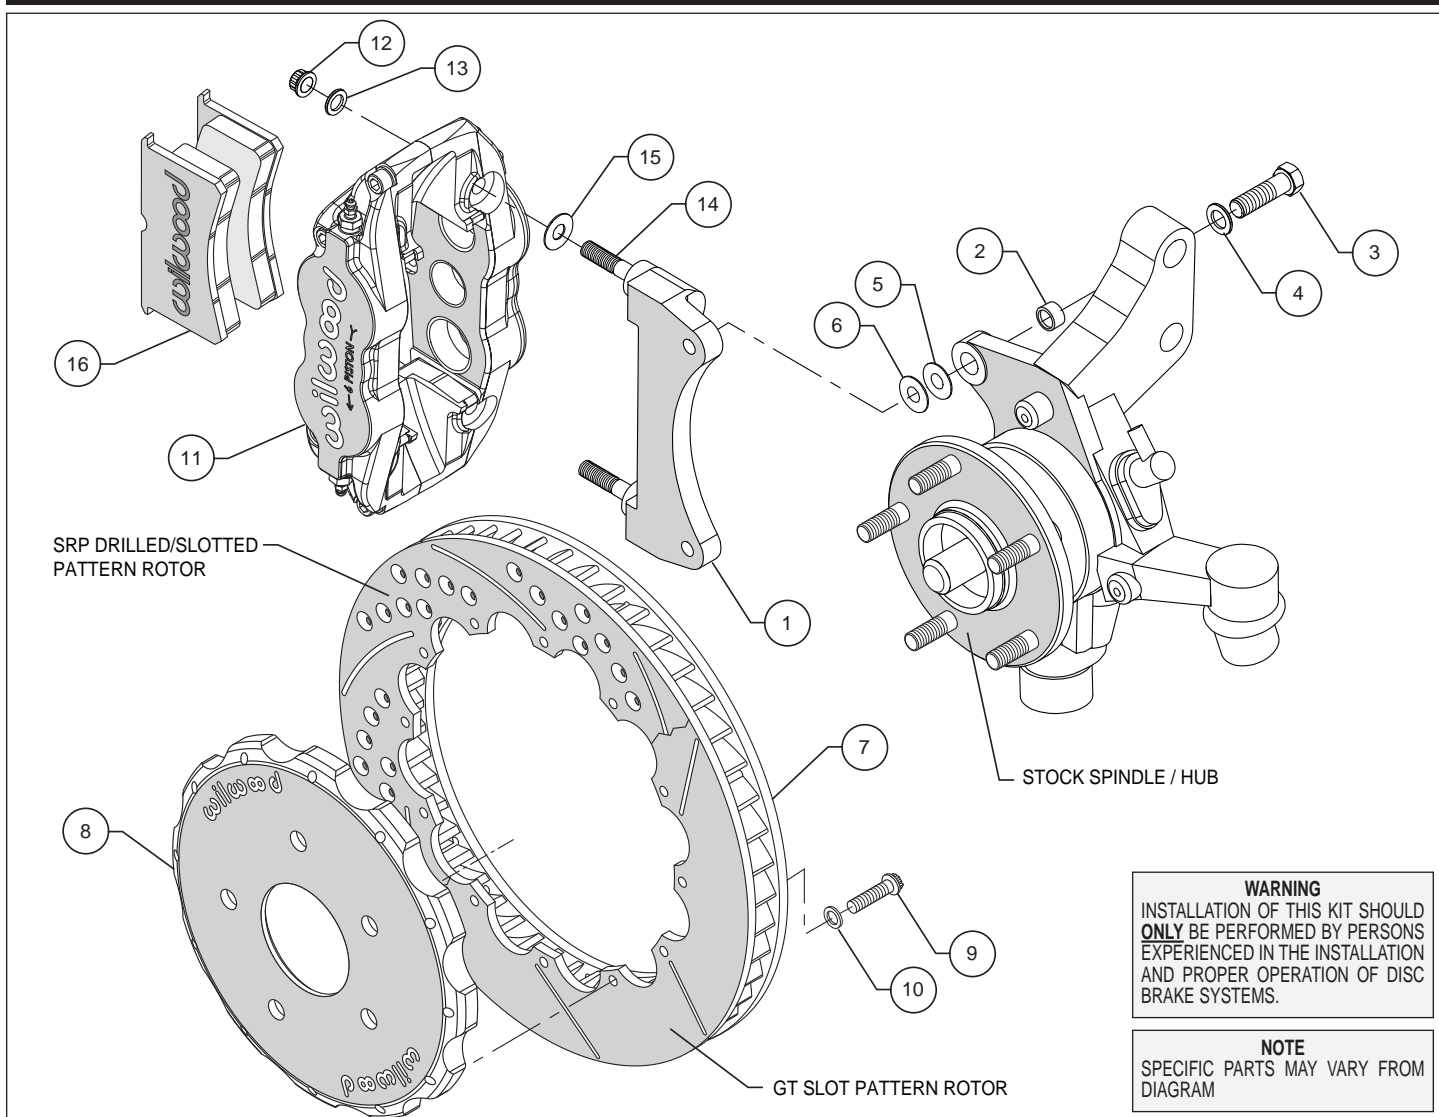

Figure 1. Typical Installation Configuration
• The caliper mounting bracket assembly (1) should be installed first with clean, dry threads on the mounting bolts. Install the bracket on the outboard side of the spindle by sliding bolt (3) through washer (4), and through sleeve (2) which will be inserted into the spindle "ears" from the back side of spindle. Place two shim washers (6) between the bracket (1) and the spindle (see Figure 1). The bracket must tighten squarely against the side of the spindle body. Inspect for interference from casting irregularities, machining ridges, burrs, etc. Use two thin shims (6) between the bracket (1) and spindle during initial trial fitting.
- **NOTE:** This kit contains distinct right and left hand calipers that must be mounted in a specific direction, as described below. Lubricate the caliper mounting studs (14) with lightweight oil. Initially place two .035" thick shims (15) on each stud as shown in Figure 1. Mount the caliper (11) onto the bracket (1) using lock nuts (12) and washers (13), Figure 1. Ensure that the caliper is mounted so that the largest pistons are at the rotor exit end of the caliper, in relation to the direction of rotor rotation. Temporarily tighten the lock nuts and view the rotor through the top opening of the caliper. The rotor should be centered in the caliper. If not, adjust by adding or subtracting shims (5 and/or 6) between the bracket and the upright. Always use the same amount of shims on each of the two mounting bolts.
- Remove the caliper center bridge pad retainer bolt, nut, and tube from the caliper. Slide the brake pads (16) into place. They should install easily without interference. Check that the outside radius of the brake pad is tangent with the outside diameter of the rotor face. Add or subtract shims (15) between the caliper and mount bracket to gain the proper alignment. Reinstall the center bridge pad retainer tube, bolt, and locknut. The locknut should be snug without play in the bolt or tube. Be cautious not to over tighten.
- Once all clearances have been checked, remove the wheel, caliper, hat, and rotor from the spindle and hub. Secure the caliper mounting bracket (1) to the spindle with bolt (3) using red *Loctite*® 271. Torque bolt (3) to 42 ft-lb. Reinstall the hat and rotor assembly and again use lug nuts to hold it in place. Reinstall the caliper (11), torque the caliper nuts (12) to 30 ft-lb.